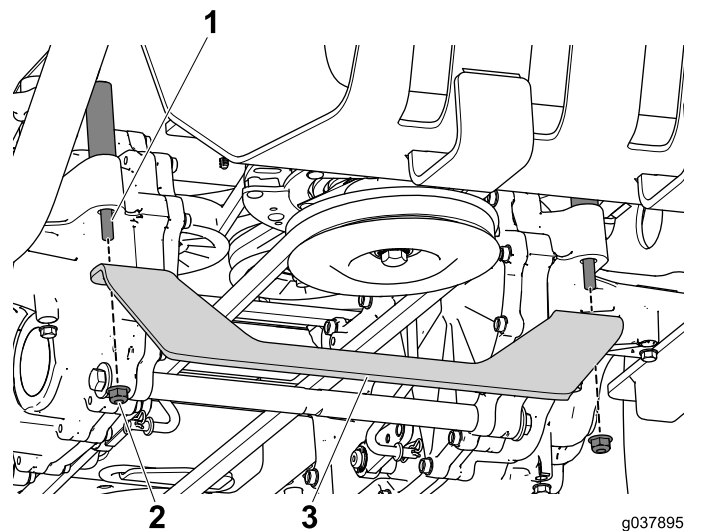

Figure 21
- Remove the 2 flange nuts from the support bolts on the left and right transmissions and set them aside (Figure 21).
- Align the bracket to the support bolts and secure them with the 2 flange nuts you removed in the previous step (Figure 21).